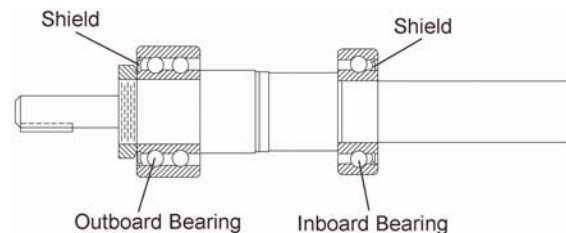

FIGURE 17 – Shielded Bearing Arrangement
1. Install the inboard bearing (#120) on the shaft (#105). The inboard bearing must be positioned against the shoulder as shown in Figure 36. If the power end is equipped with single shield re-greaseable bearings, the shields should be oriented as shown in Figure 17.